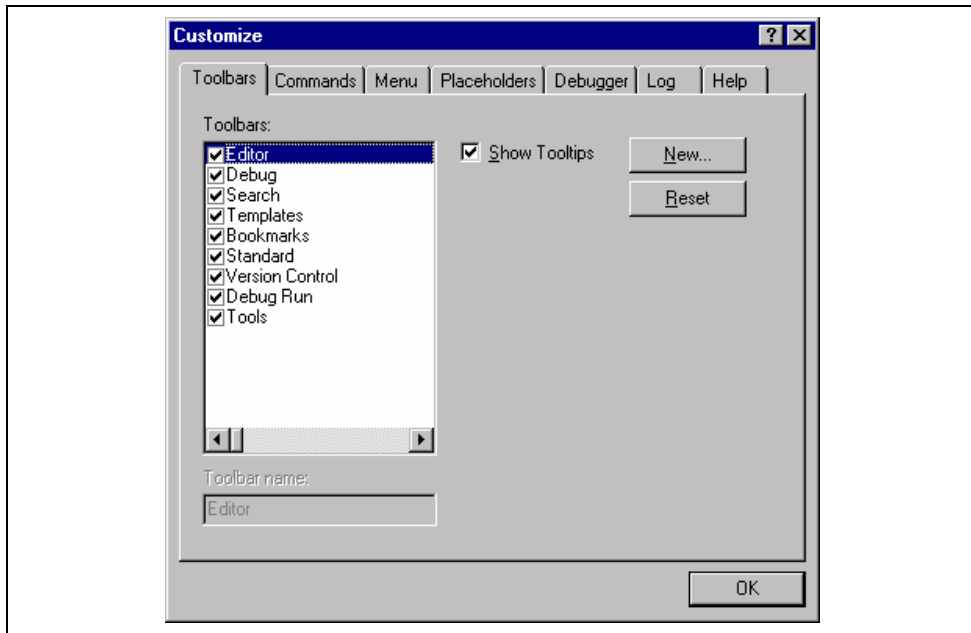
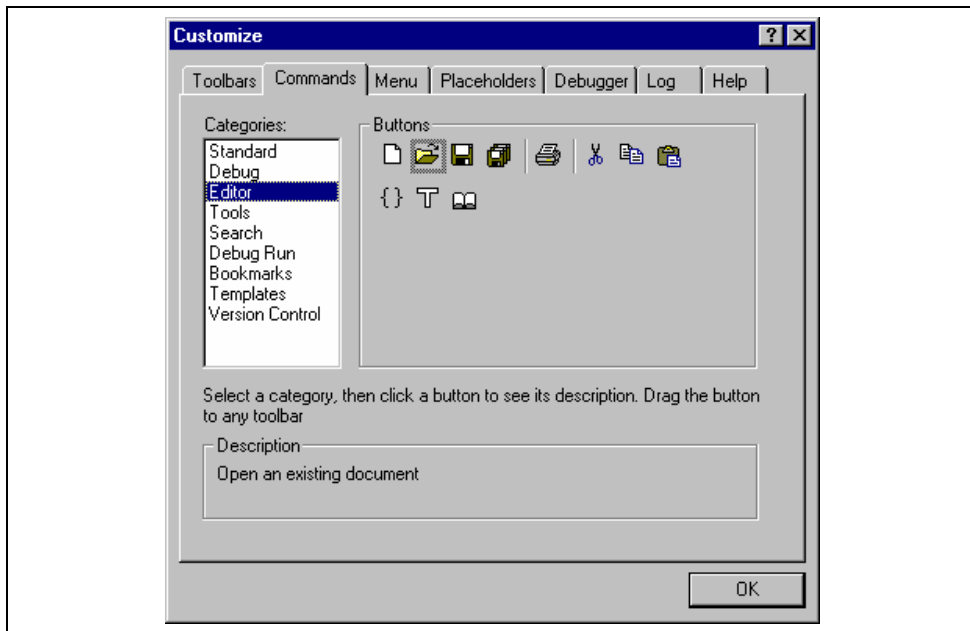
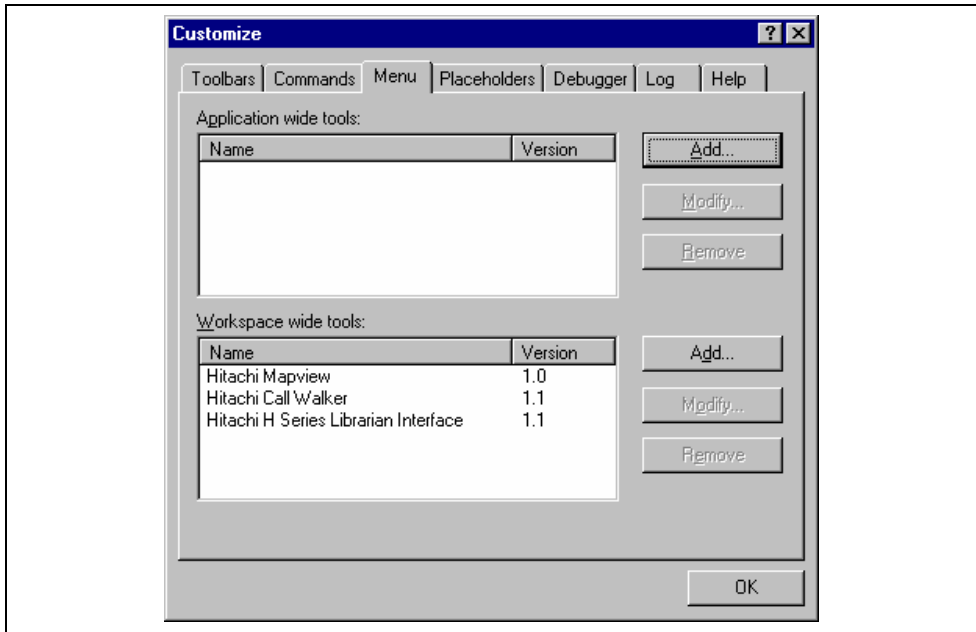
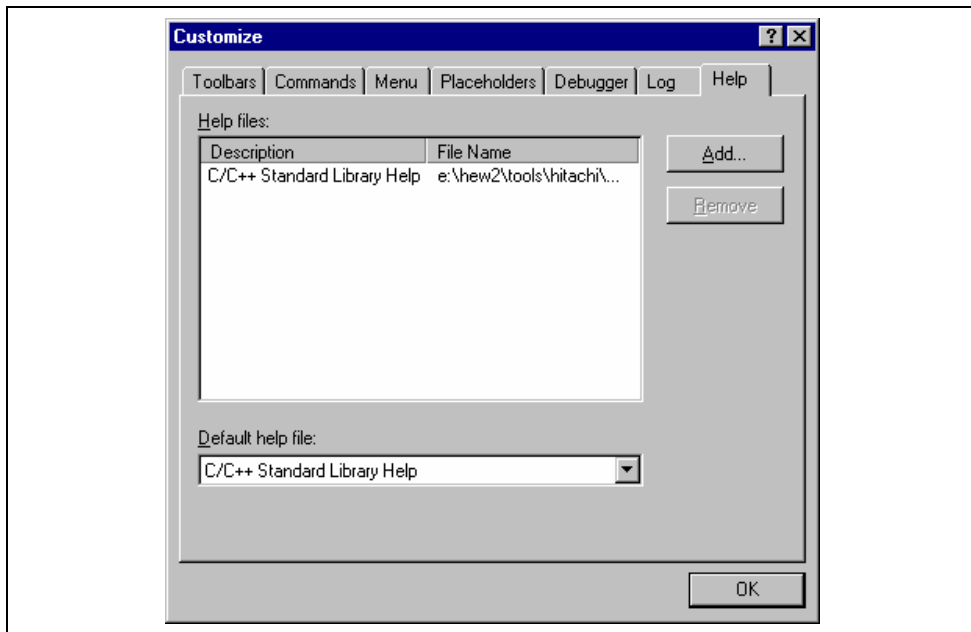

Figure 6.1: Customize Dialog Toolbars Tab
Figure 6.3: Customize Dialog Commands Tab
Figure 6.4: Customize Dialog Menu Tab
Figure 6.7: Customize Dialog Help Tab
The Hitachi Embedded Workshop provides 2 standard toolbars as detailed in chapter 1, “*Overview*”. In addition to these, you may also construct your own toolbars via the “Customize” dialog (figure 6.1).
1. Select [**Tools->Customize...**]. The dialog shown in figure 6.1 will be displayed.
1. Select [**Tools->Customize...**]. The dialog shown in figure 6.1 will be displayed. Select the “Commands” tab (see figure 6.3).
2. Select the user-defined toolbar from the “Toolbars” list, and the “Reset” button in figure 6.1 changes to the “Delete” button. Then click the “Delete” button.
1. Select [**Tools->Customize...**]. The dialog shown in figure 6.1 will be displayed. Select the “Menu” tab (see figure 6.4). The first thing for you to decide is whether you are adding a global application wide tool (“Application wide tools:”), which will be available to all of your workspaces. Or whether you wish to add a workspace wide tool (“Workspace wide tool:”), which is only valid for the current workspace. Once you have made the choice choose the relevant section of the dialog.
1. Select [**Tools->Customize...**]. The dialog shown in figure 6.1 will be displayed. Select the “Menu” tab (see figure 6.4).
1. Select [**Tools->Customize...**]. The dialog shown in figure 6.1 will be displayed. Select the “Help” tab (see figure 6.7).